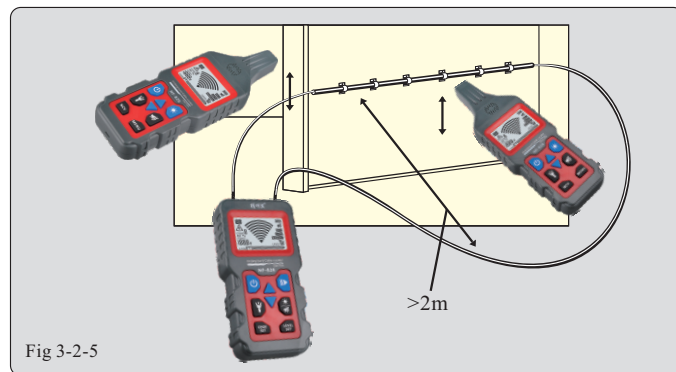

Fig 3-2-5
- ※ Connect the transmitter in a way shown in Fig.3-2-5;